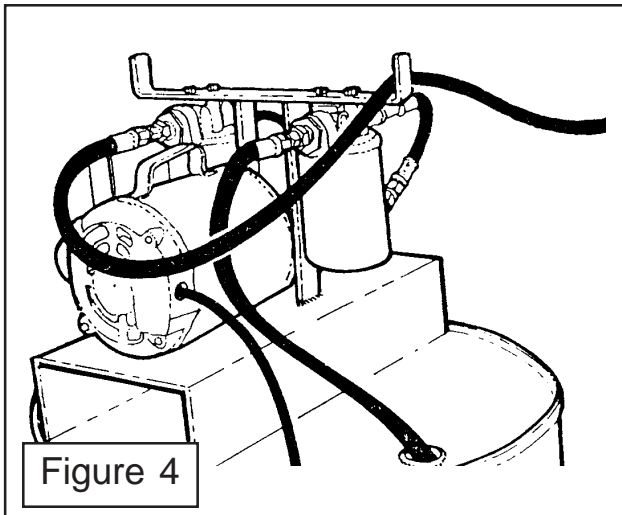

Figure 4
2. Avoid Hydraulic Contamination is Important. Avoid hydraulic contamination by filtering the hydraulic oil while filling the hydraulic tank. Filter buggies or carts are commercially available for hydraulic system clean-up. These consist of a high-efficiency, high-capacity filter, a circulating pump, a drive motor, and hoses for connecting to the overhauled machine's hydraulic system (See Figure 4 & 5).
3. When adding hydraulic oil, use only new oil from a sealed barrel. Used oil or oil from an open barrel may contain high levels of contamination. Transfer the oil into the hydraulic tank by using a hydraulic filter pump unit equipped with a properly operating 10 micron filter. This will insure that the oil being added is clean. Do not just pour the oil directly into the hydraulic tank since most oils (even from a sealed barrel) have contaminants that must be removed, before operating the hydraulic system (See Figure 4, 5 & 6).